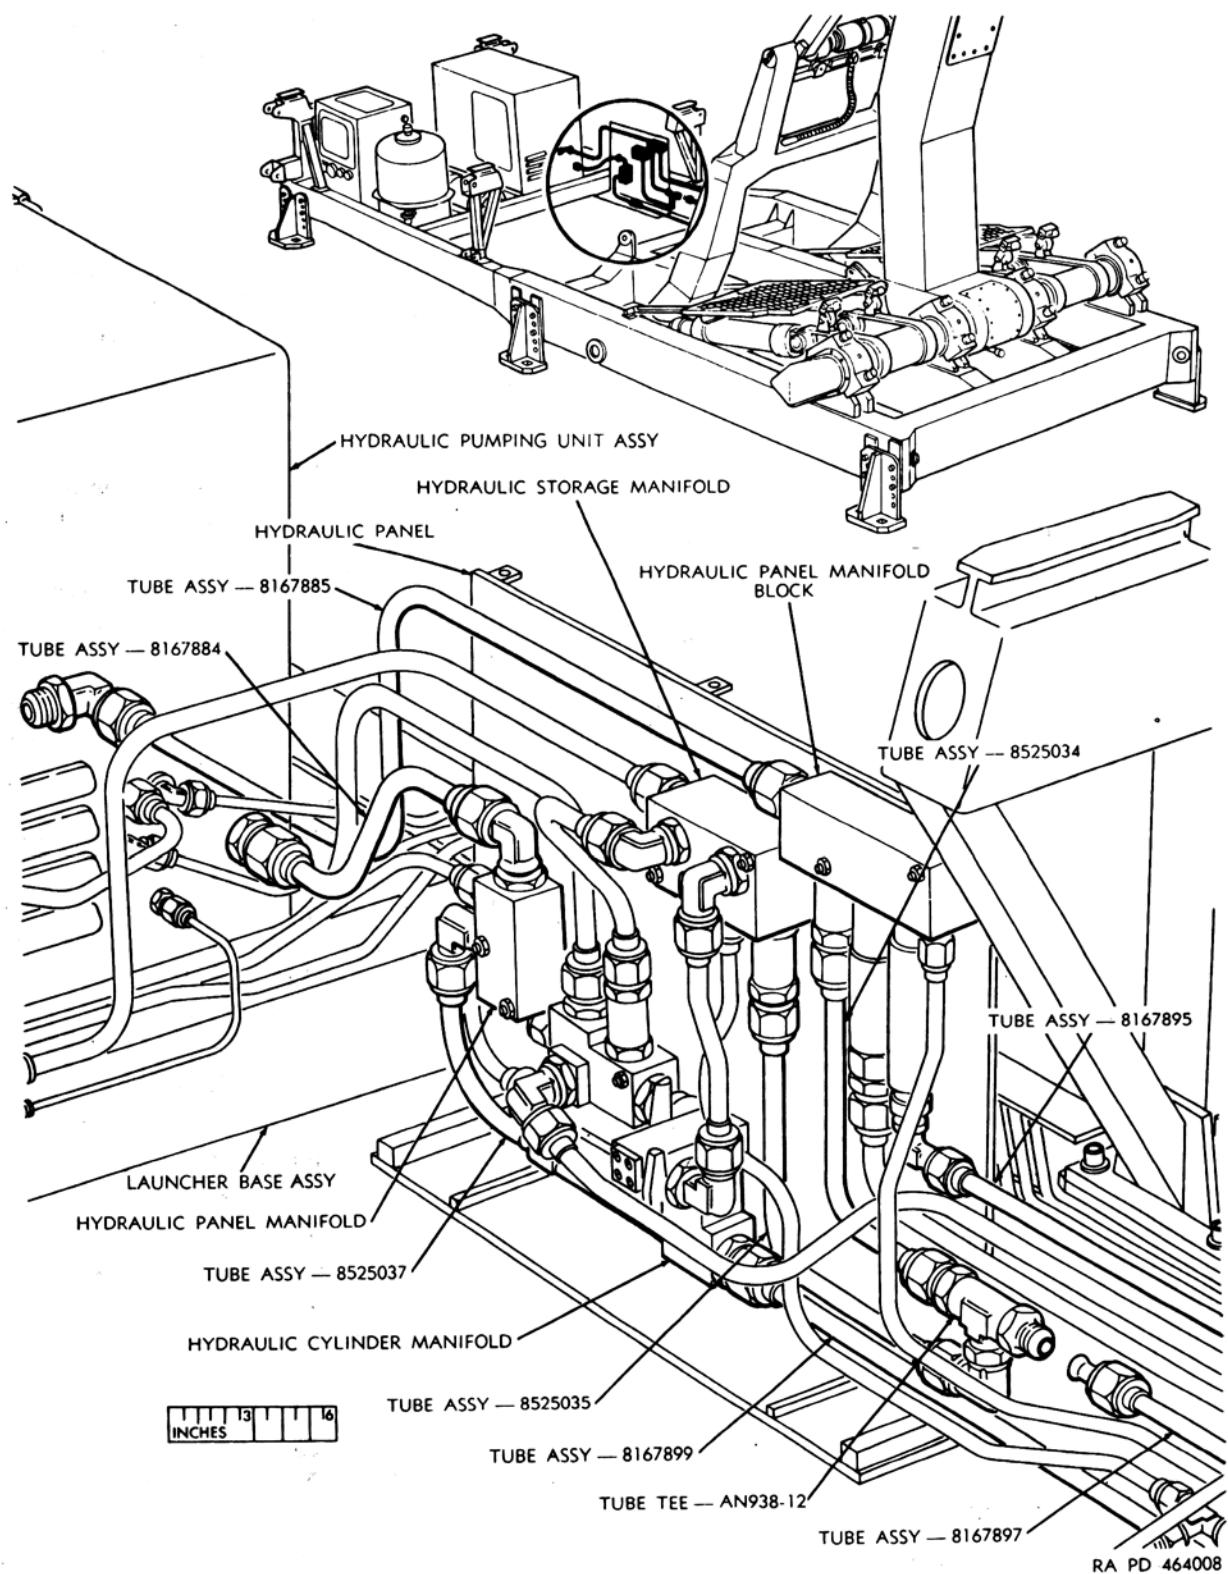

Figure 188. Erecting system hydraulic network — removal and installation.
- (4) Remove tube assemblies (fig. 188) and tube tee to be replaced; cap all open lines.